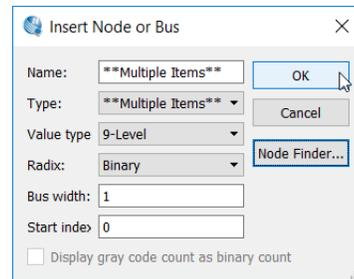

Figure 33. Adding multiple nodes.
9. We will be brought back at the Insert Node or Bus box as shown in Figure 33, click **OK**.